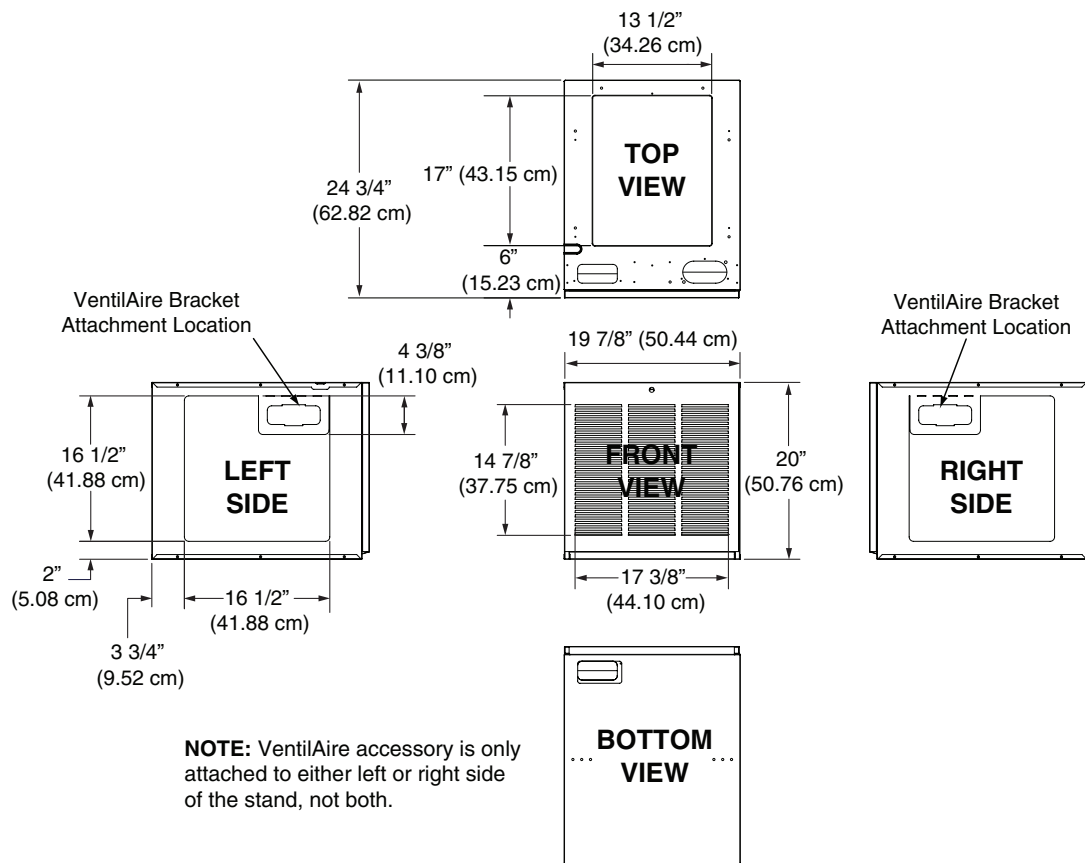

Figure 19. E7 Appliance Upflow Stand Dimensions
- The thermostat should be mounted about 5 feet (1.5 m) above the floor on an inside wall. DO NOT install the thermostat on an outside wall or any other location where its operation may be adversely affected by radiant heat from fireplaces, sunlight, or lighting fixtures, and convective heat from warm air registers or electrical appliances. Refer to the thermostat manufacturer's instruction sheet for detailed mounting information. See Figure 19 (page 14) for typical thermostat connections.
- NOTE:** Installation of at least a four-wire thermostat circuit is required. However best practice is to use five-wire for future addition of a heat/cool thermostat. Any unused thermostat leads must be properly capped. See Figure 19 (page 14) for various thermostat connections.